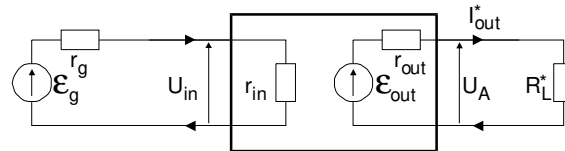
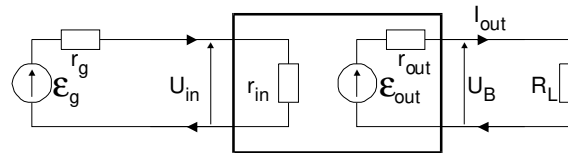

Fig. 3.1. Schematic diagram of the four-terminal network configured to measure  $U_A$
Fig. 3.2. Schematic diagram of the four-terminal network configured to measure  $U_B$
In order to estimate the output impedance  $r_{in}$  of the tested four-terminal network at a fixed electromotive force  $\epsilon_g$  on the generator (with output impedance  $r_g$ ) we have to make the measurements of output voltages  $U_A$  and  $U_B$  in two cases: without additional load resistor of four-terminal network ( $R_L^* \rightarrow \infty$ ; Fig. 3.1, measurement of the output voltage  $U_A$ ) and with an extra load resistor ( $R_L \neq \infty$ ; Fig. 3.2, measurement of the output voltage  $U_B$ ).
12. Connect the function generator to the both oscilloscope and four-terminal network (ask technician about the required four-terminal network). Use DMM and/or oscilloscope to measure voltages:  $U_A$ ,  $U_B$ ,  $U_C$  and  $U_D$  (see Figs. 3.1 to 3.4). Next use DMM to measure the values of  $R_L$  and  $R_S$ . Make an assumption the  $r_g$  value is equal to 50  $\Omega$ . Use Eqs. (1) and (2) to make proper calculations and estimate the input and output impedances of tested four-terminal network.